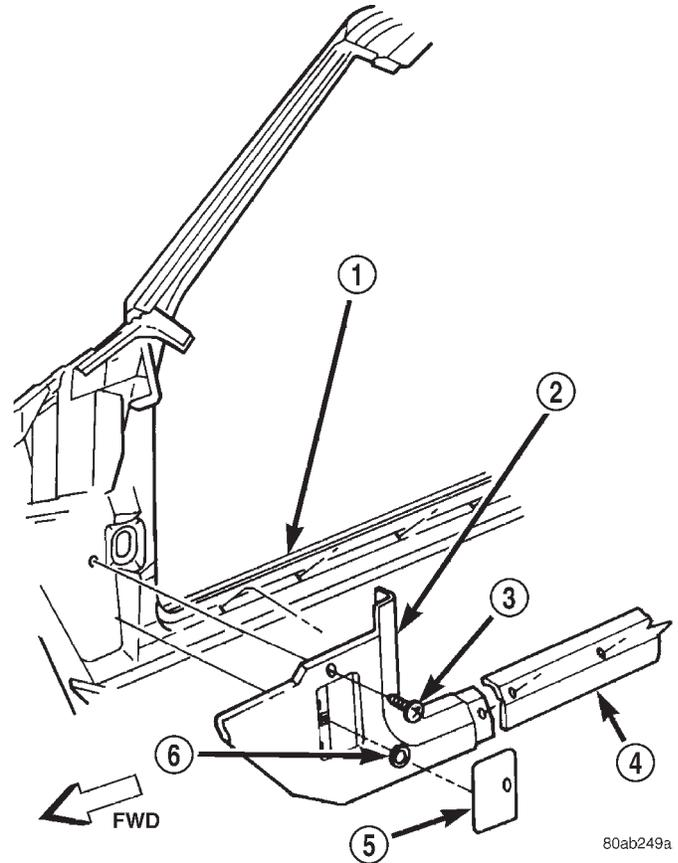

Fig. 8 Right Cowl Side Inner Trim Remove/Install
- (1) Disconnect and isolate the battery negative cable.
- (2) Remove the fuse access panel by unsnapping it from the right cowl side inner trim panel (Fig. 8).